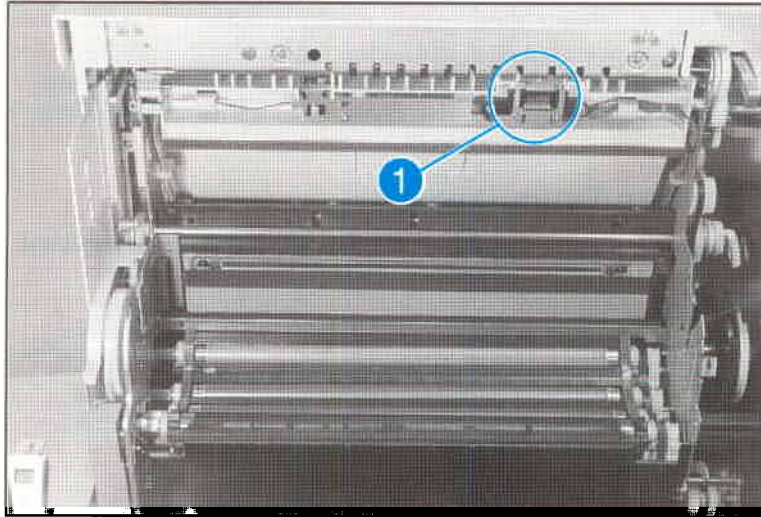

Figure 7-7 Print Drum Connector
2. With the printer unplugged and powered OFF, inspect the Print Drum Connector (see Figure 7-7, item 1). Ensure that the connections are not bent and that both the male and female ends are in good repair, and are clean.
1. Remove the Print Drum and inspect both sides of the connector shown in Figure 7-7, item 1.